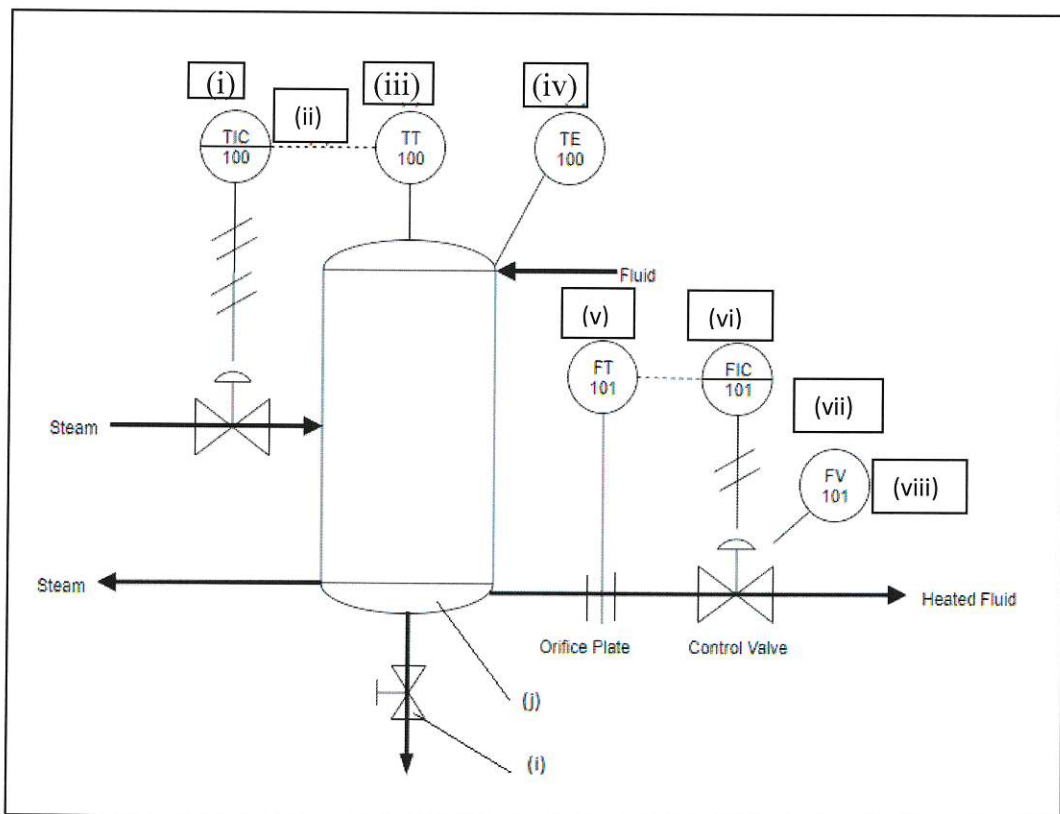

Figure A4(c) / Rajah A4(c)
- (c) Figure A4(c) shows the equipment and line in the process industry which shows the piping of the process flow together with the installed equipment and instrumentation. Based on the figure, change the symbols label (i) to (viii) in P&IDs below to the equipment and line name.